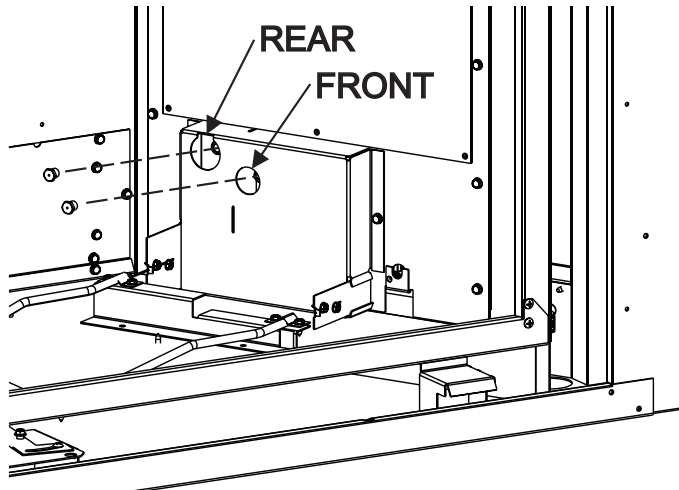

Figure 4
6. Use a 7/16 inch deep socket set to remove orifices. **See Figure 4.**